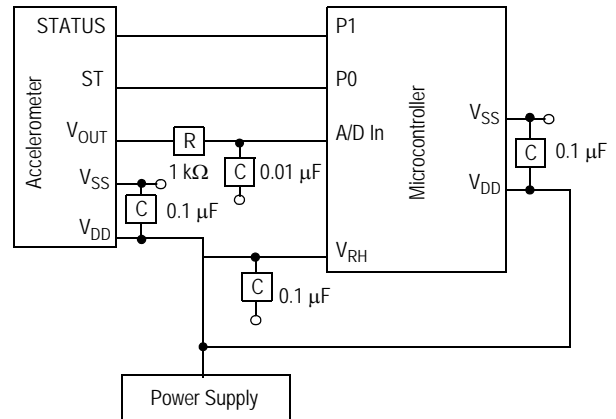

Figure 6. Recommended PCB Layout for Interfacing Accelerometer to Microcontroller
3. Place a ground plane beneath the accelerometer to reduce noise, the ground plane should be attached to all of the open ended terminals shown in Figure 6.